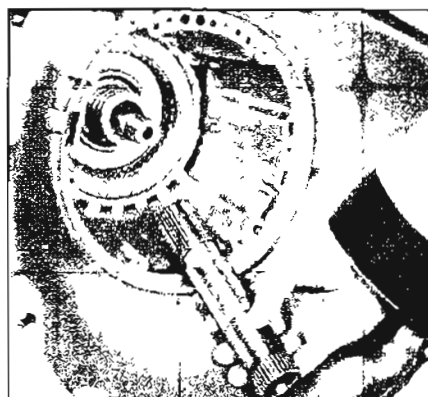

Figure 5-544
11. Remove the sun gear shaft, See Figure 5-544.